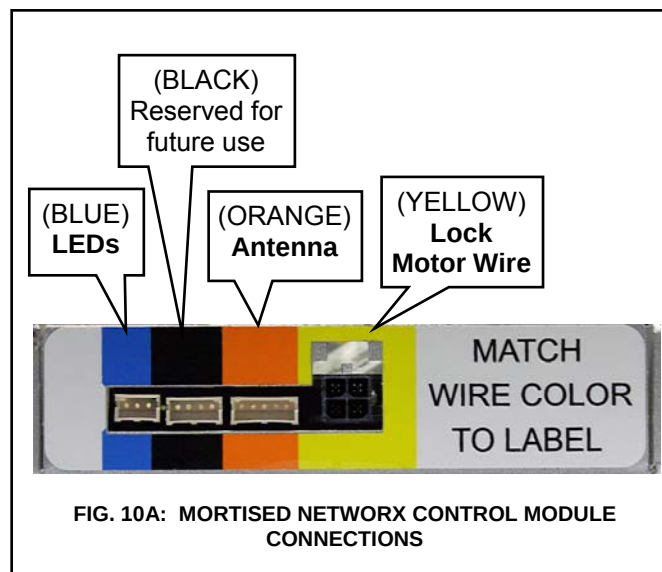

FIG. 10A: MORTISED NETWORKX CONTROL MODULE CONNECTIONS
Observe the rear of the **Mortised Networkx Control Module** with its four (4) dissimilar sockets. Simply match the colors of the plug wire sleeves to the colors of the sockets (the **Black** socket is currently not used and is reserved for future use). See Fig. 10A.